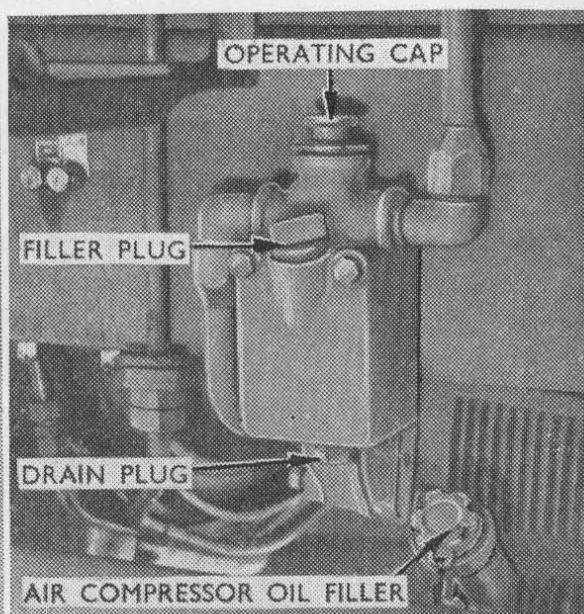

Fig. 38. Anti-freezer.
- (F) ANTI-FREEZER. (*Fig. 38*).